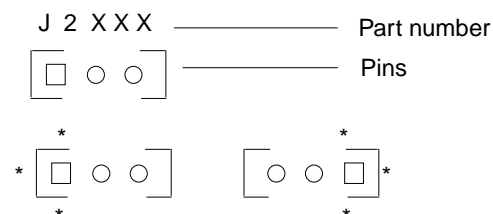
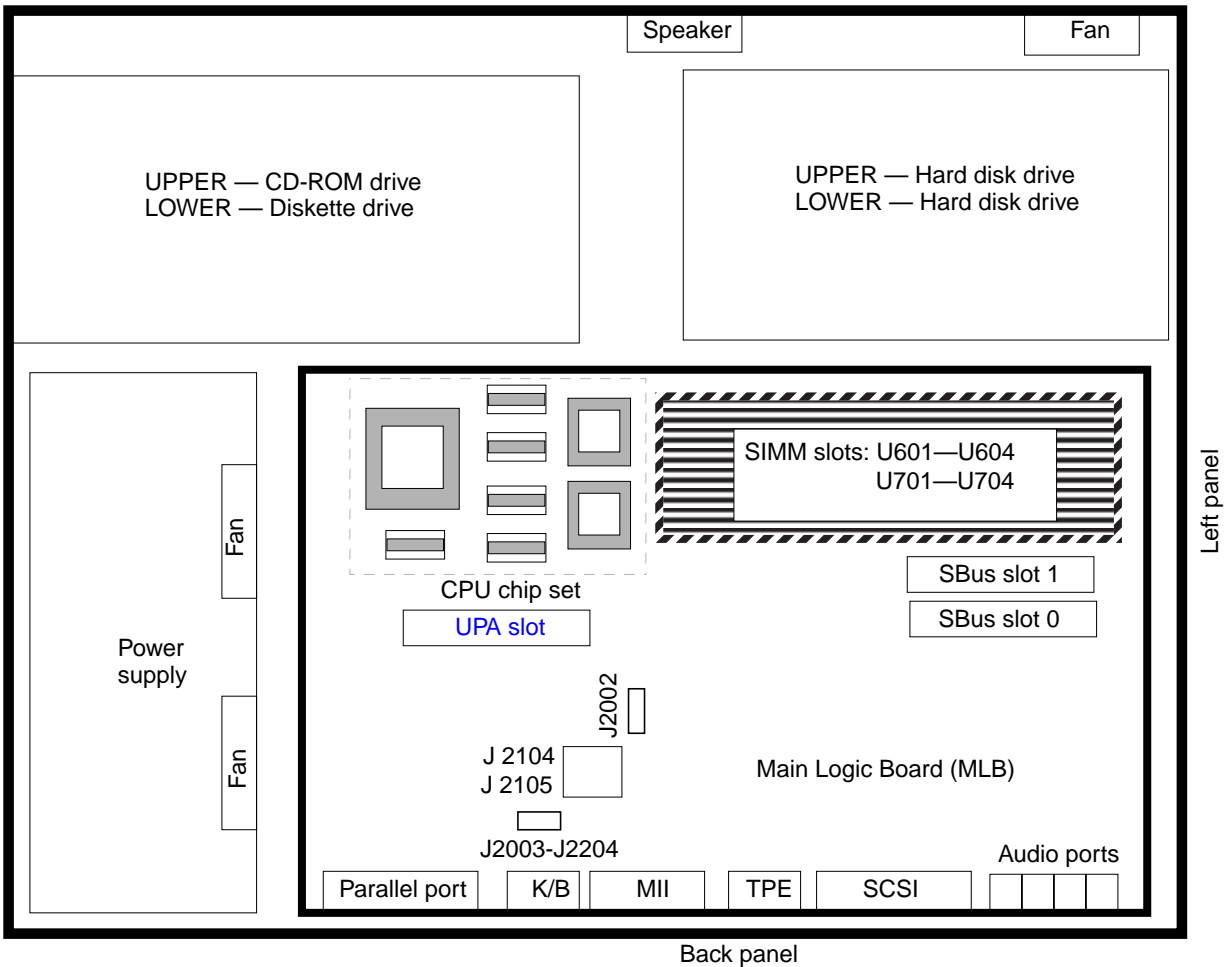

Figure 3-7 Identifying Jumper Pins
Figure 3-8 Location of the Serial Port Jumpers
9. Check the serial port jumpers J2104 and J2105 on the replacement system board (Figure 3-8) for serial protocol setting. Change the setting, if needed, by using a pair of long-nose pliers to move the jumper block to connect the appropriate pins on the jumper. See Table 3-1 and Figure 3-7.
**Note** – Jumpers are identified on the system board with part numbers. Jumper pins are located immediately adjacent to the part number. Pin 1 is marked with an asterisk in any of the positions shown (Figure 3-7). Ensure that the serial port jumpers are set correctly.